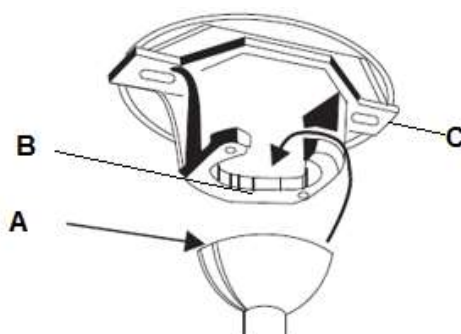

Fig. 8
Lift the fan assembly onto the mounting bracket. Ensure the key slot (A) of the hanger ball is positioned on the key pin (B) of the mounting bracket (C) to prevent the fan from rotating when in operation. (Fig.8)